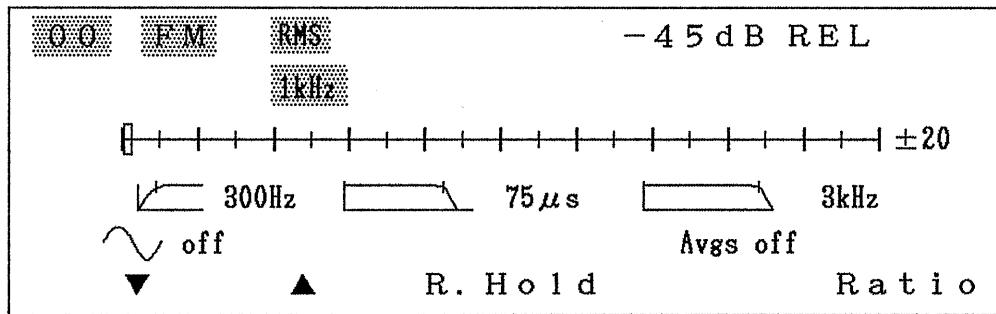

Fig. 4-11
*The optimum input level of the  $Z=50\Omega$  INPUT ① is  $-27$  to  $+13$ dBm. When this optimum input level is exceeded, an attenuator (ATT) is required.*
6. The AF oscillator output ⑩ is set to obtain the specified deviation.
7. The F5 Ratio function key ⑧ is then pressed to inversely display ratio in dark characters on a light background.
*When the Ratio function key ⑧ is not being displayed, define the function keys with <<System Manage>> in viewing area 6.*
8. Turn off the AF oscillator. Items 6.-8. are repeated allowing FM S/N to read directly from viewing area 2 as shown in Fig. 4-11. The display on the right side of the bar graph scale is such that the left side of the scale indicates  $-20$ dB, the right side  $+20$ dB and the center  $0$ dB. Therefore, in the example of Fig. 4-11, the display of  $-45$ dB REL is displayed on the left side. Changing of the ratio display between LOG and LIN displays is done by pressing the F4 and F5 key after pressing the yellow key ④.